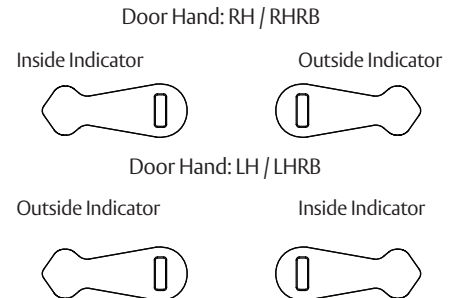

Figure 3
Next, verify inside and/or outside indicators are handed correctly, using Spindle Cam Position chart. (Figure 3)
2. Position spindle cam in correct direction for door hand. (Figure 3)